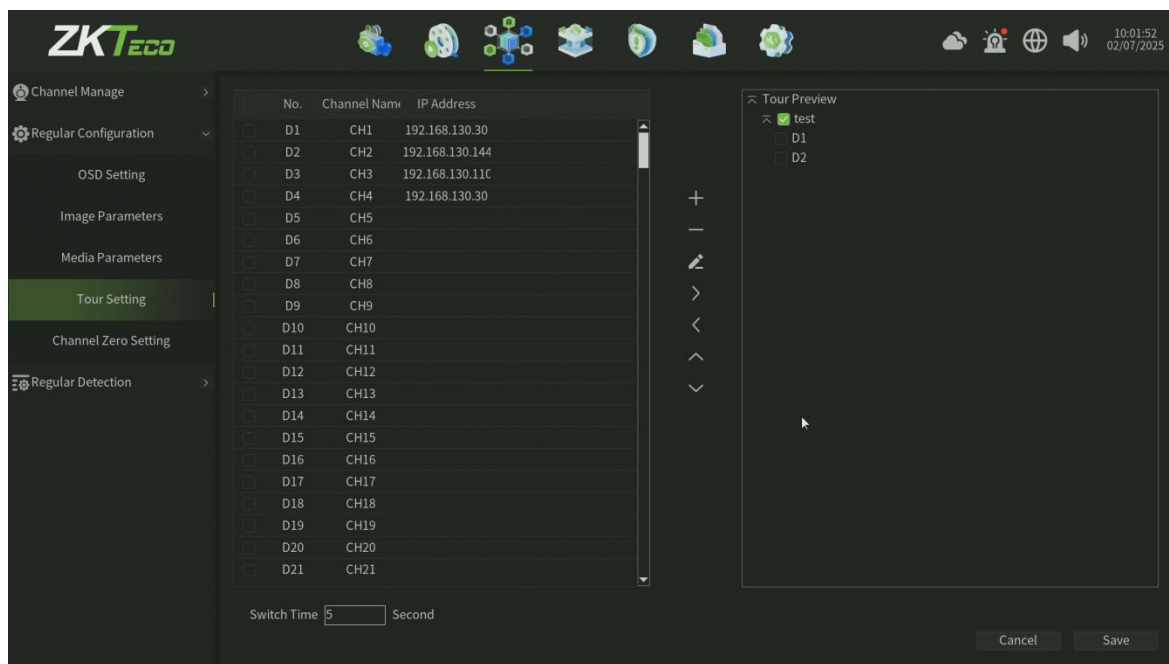

Figure 6.10 Tour Setting Interface
1. Enter the Tour Setting interface, as shown in figure 6.10.